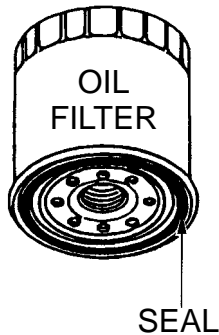

Figure 42. Oil Filter/Seal
- Be sure to coat the seal (Figure 42) of the new oil filter with clean engine oil.